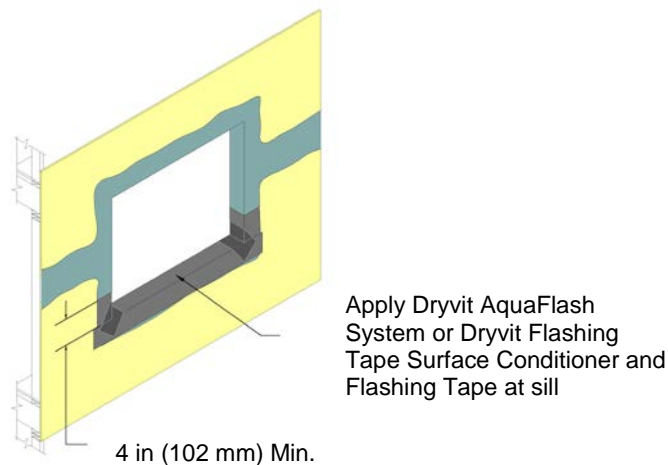

Figure 11
- Apply Dryvit AquaFlash System or Flashing Tape at sill in accordance with Sections IV.A.3 and IV.C respectively. **NOTE: AquaFlash System or Flashing Tape must extend up the jambs a minimum of 4 in (102 mm) – Figure 11.**